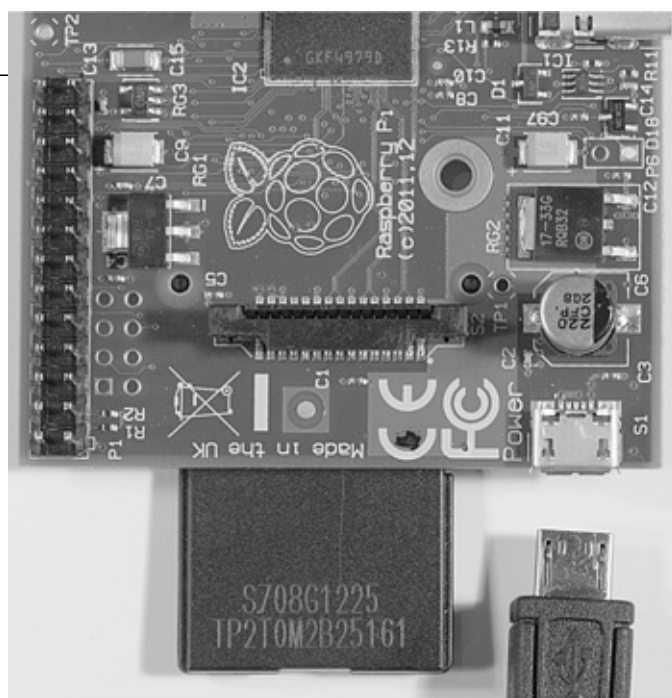

Figure 1-5 Micro USB power connector.
The power connector shown in Fig. 1-5 is a micro USB socket that is wired to pass the 5-volt (V) *direct current* (DC) lines from a micro USB plug, also shown in the figure. (Since all voltage in this project is DC, I will use just the notation V for V DC.) No data connections are wired to this socket. You can use almost any available smartphone charger that has a micro USB connector or use the power supply that came with the RasPi kit, if that's what you purchased.